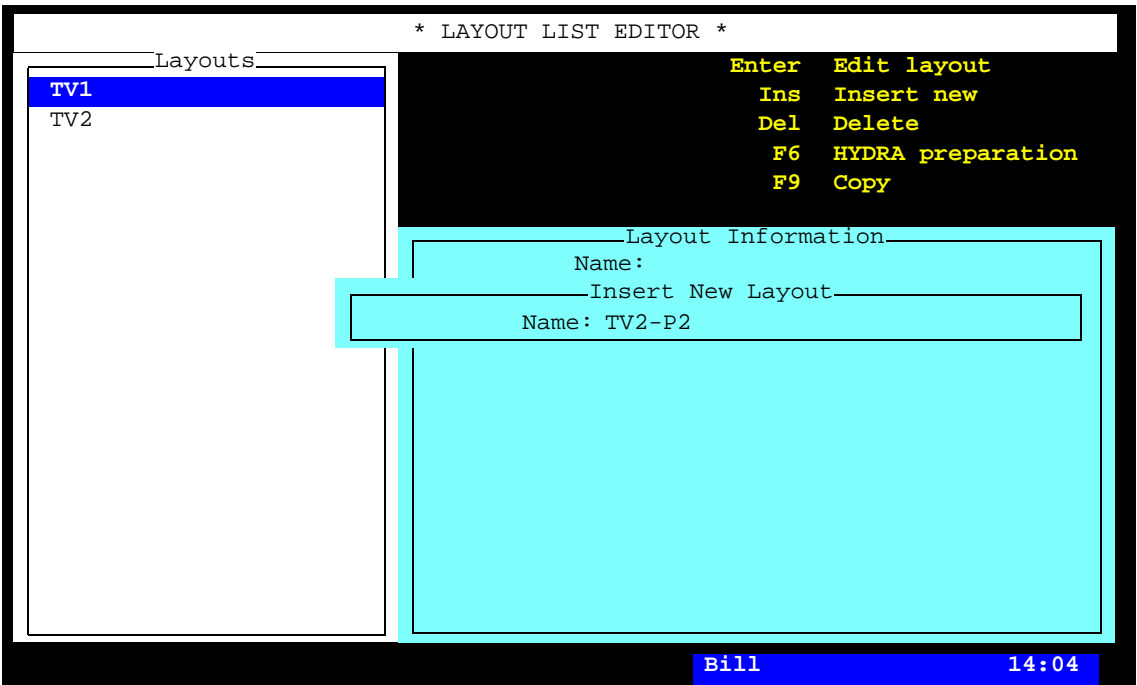

Figure 2-29. Creating a new layout
- 5. Enter the name TV2-P2 as shown in Figure 2-29.